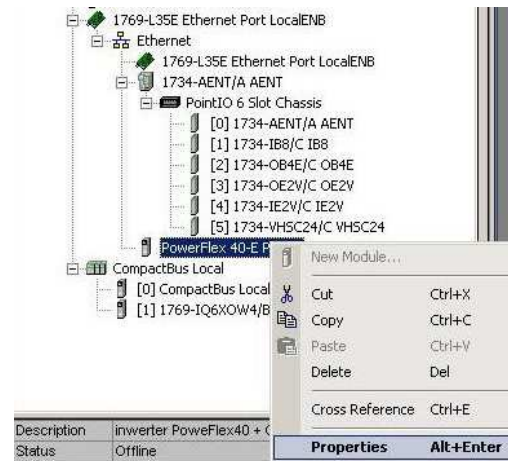

Fig. 23: Properties of the PowerFlex40
4. Open the **I/O Configuration** folder in the existing RSLogix500 project. Expand the folder tree and find **PowerFlex 40-E**. Click the right mouse button and select **Properties** (Fig. 23)